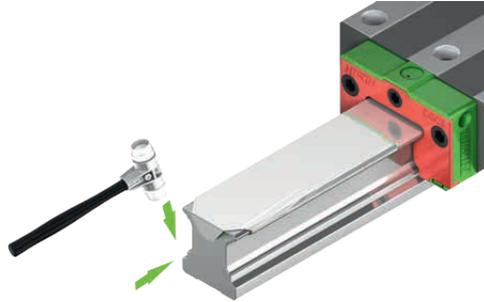

Fig. 5.35 **Bending the cover strip ends**
- ▶ Carefully bend the two ends of the cover strip with a rubber mallet (see Fig. 5.35).